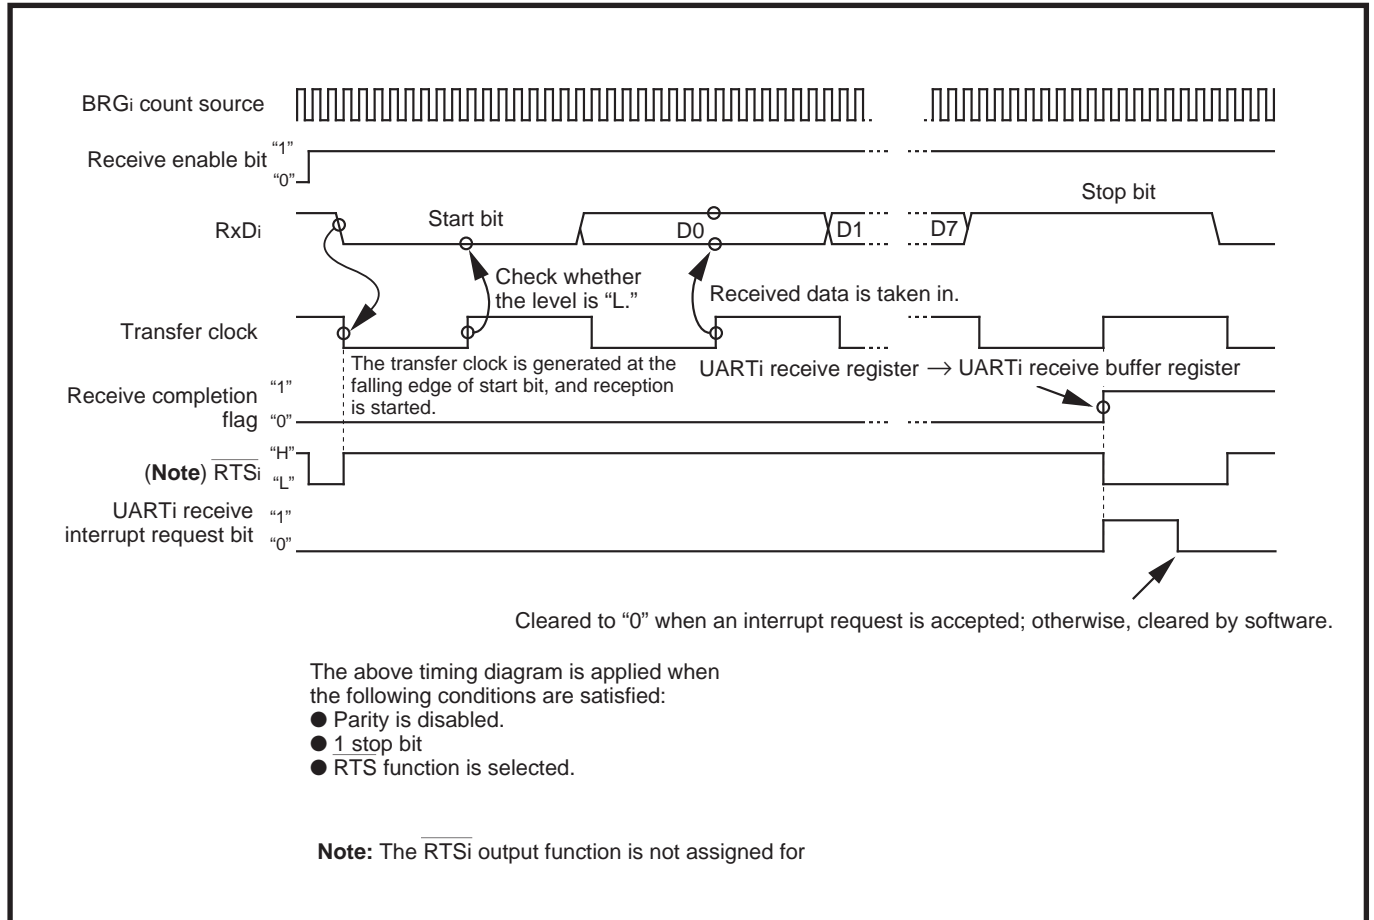

Fig. 8.4.12 Example of receive timing when data is transferred in 8 bits (When parity is disabled and one stop bit)
- ① The signal which is input from the RxDi pin is taken in the most significant bit of the UARTi receive register synchronously with the transfer clock’s rising edge.
- ② The contents of UARTi receive register is shifted by 1 bit to the right.
- ③ Operations ① and ② are repeated at each transfer clock’s rising edge.
- ④ When a set of data is prepared, in other words, when shifted several times depending on the specified data format, the UARTi receive register’s contents is transferred to the UARTi receive buffer register.
- ⑤ Simultaneously with ④, the receive completion flag is set to “1.” Furthermore, a UARTi receive interrupt request occurs and the interrupt request bit is set to “1.”
The receive completion flag is cleared to “0” when the low-order of the UARTi receive buffer register is read out. The $\overline{\text{RTSi}}$ pin’s output level becomes “L” simultaneously with ⑤ (when $\overline{\text{RTSi}}$ function is selected). Figure 8.4.12 shows an example of receive timing when transfer data has a length of 8 bits.